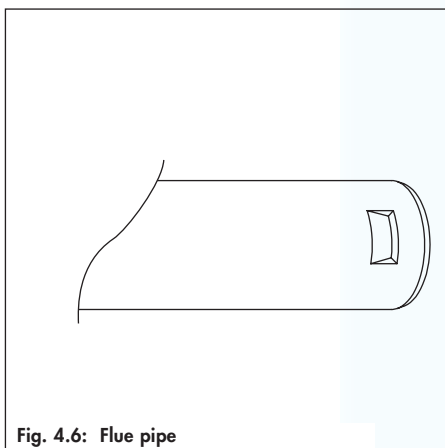

Fig. 4.6: Flue pipe
- ⚠ Please note: The catch on the top of the variable terminal must lock firmly into the notch in the flue duct (fig. 4.6).